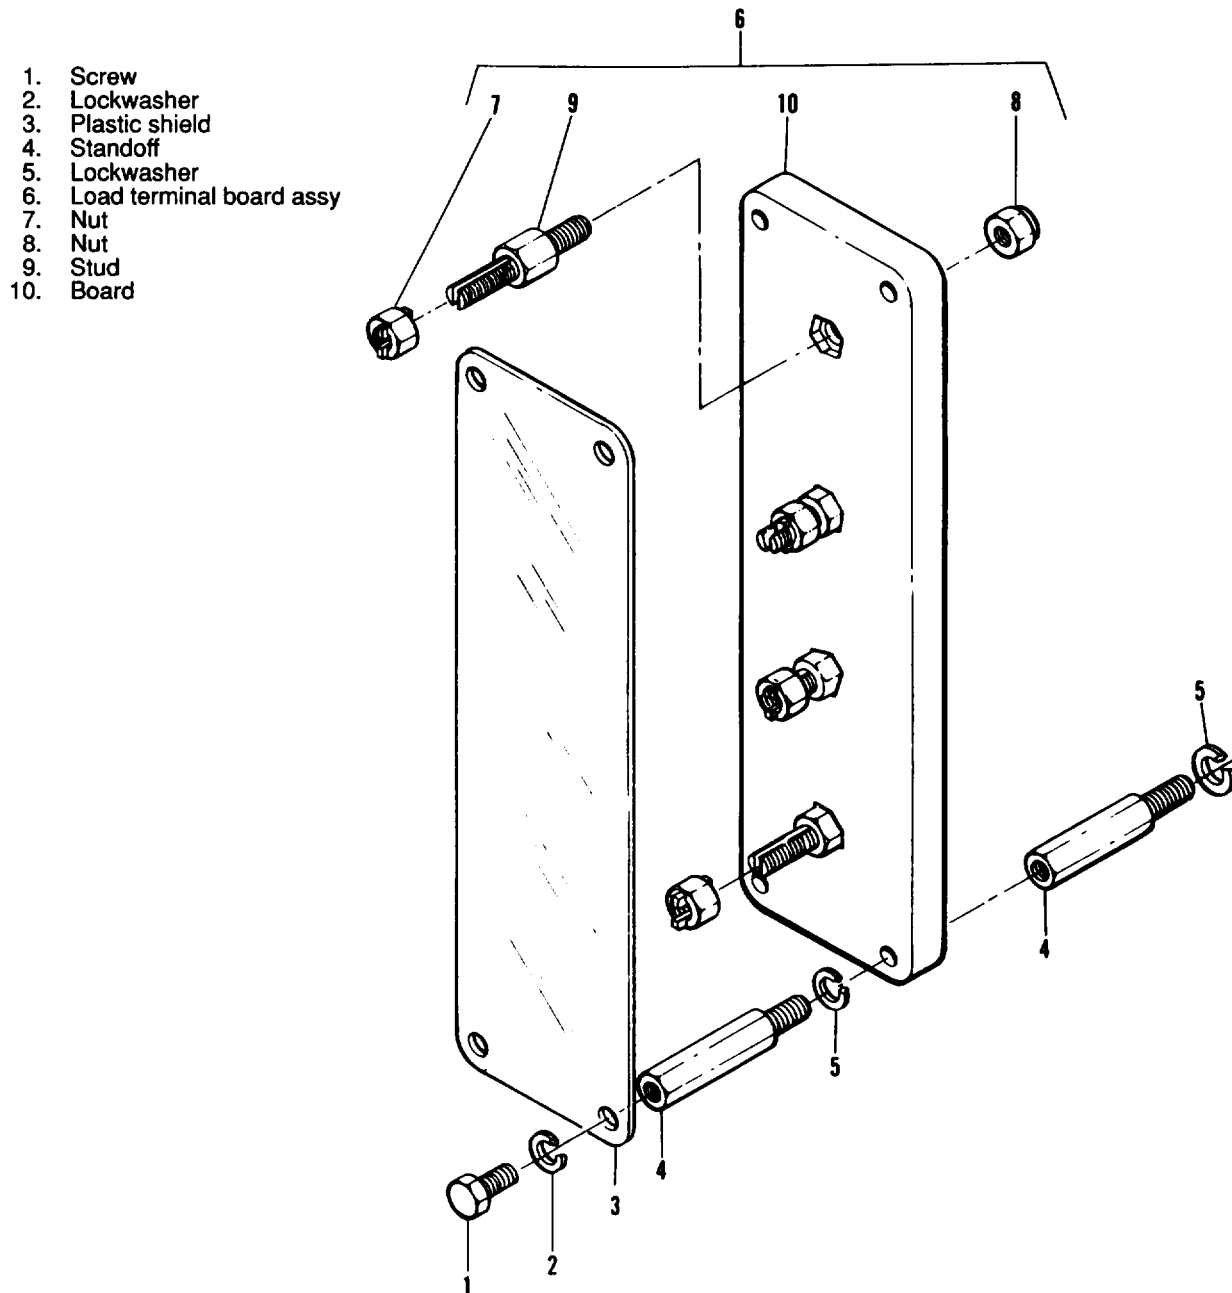

Figure 3-106. Load Terminal Board Assembly, Exploded View
- (1) Tag and disconnect electrical leads to load terminal board assembly.
- (2) Remove screws (1, figure 3-106), lockwashers (2) and plastic shield (3).
- (3) Remove stand-off (4) and lockwashers (5) to remove load connection terminal board assembly (6).
#### b. Disassembly. Remove nut (7, figure 3-106), nut (8), stud (9) and board (10).
- (1) Clean load terminal board with filtered compressed air and a soft bristle brush.
- (2) If necessary, wipe load terminal board assembly with a clean, lint-free cloth moistened with an approved solvent.
- (3) Inspect load terminal board for warping, cracks, damaged threads, corroded terminals, and burns.
- (4) Replace any damaged or defective parts.
#### d. Assembly. Position board (10, figure 3-106) to install stud (9), nut (8), and nut (7).
- (1) Position load terminal board assembly (6, figure 3-106) to install lockwashers (5) and standoff (4).
- (2) Install plastic shield (3), lockwashers (2) and screws (1).
- (3) Connect electrical leads to load terminal board assembly.